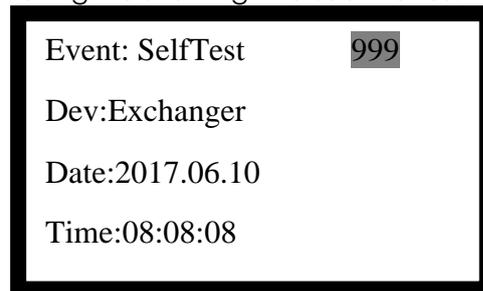

Fig. 4-4
- Select "1. By Time" to enter the screen of Fig.4-4. History record can be browsed in time order. Pressing **【▲】** and **【▼】** can view the last or next message. Up to 999 history record can be browsed.